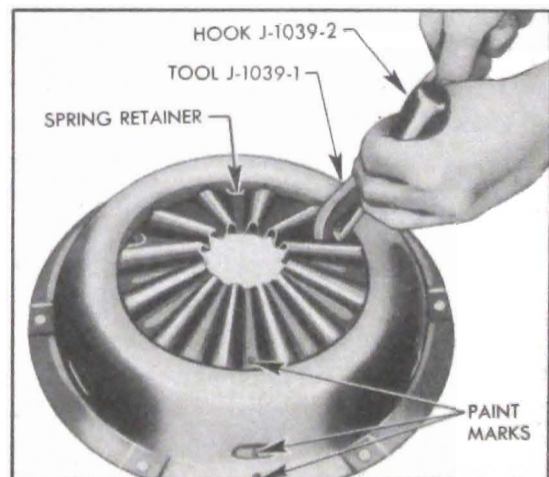

Figure 4-13—Attaching Spring Retainer to Cover
3. Lift off clutch cover, then unhook all spring retainers from clutch spring by working one leg of retainer toward center of spring and the other leg away from center. See figure 4-13.
5. Use Assembly Tool J1039-1 and Assister Hook J1039-2 to hook loop of each spring retainer over ear on clutch cover. See figure 4-13. Do not hammer on tools to get them into place because this will distort clutch cover. Do not stretch retainers any further than is necessary in hook loop over ear on cover. If retainers appear weak or distorted they should be replaced in complete sets to insure even tension.